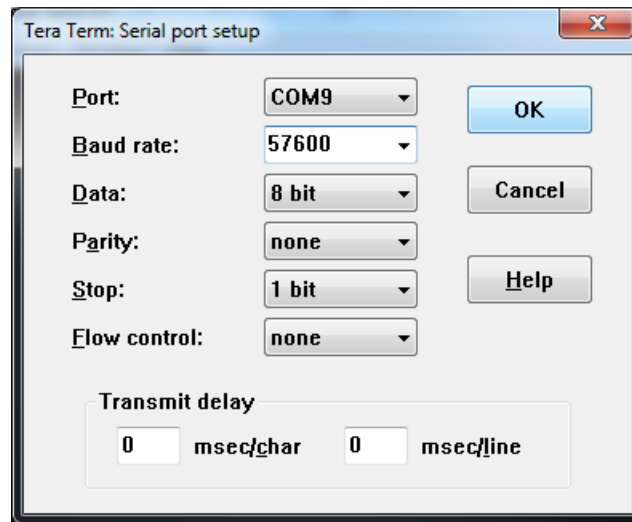

Figure 18 Serial Port Settings
- Step 4. In the Setup menu, select **Serial Port**. Apply the settings shown in *Figure 18* (with the appropriate COM port selected) and click **OK**.